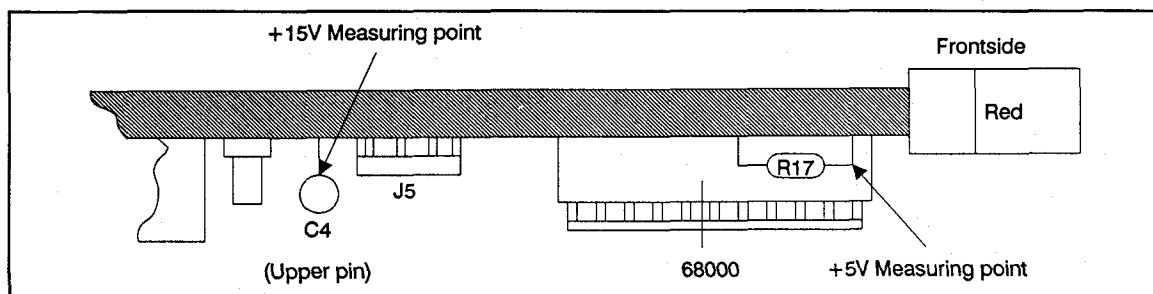

Figure 7-1. +5 V_{dc} and +15 V_{dc} Voltage Test Points on Display Processor Board
1. Connect a digital voltmeter (DVM) to the right leg of R17 on the Display Processor Board. Refer to Figure 7-1.
1. Connect the digital voltmeter (DVM) to the upper leg of C4 on the Display Processor Board. Refer to Figure 7-1.